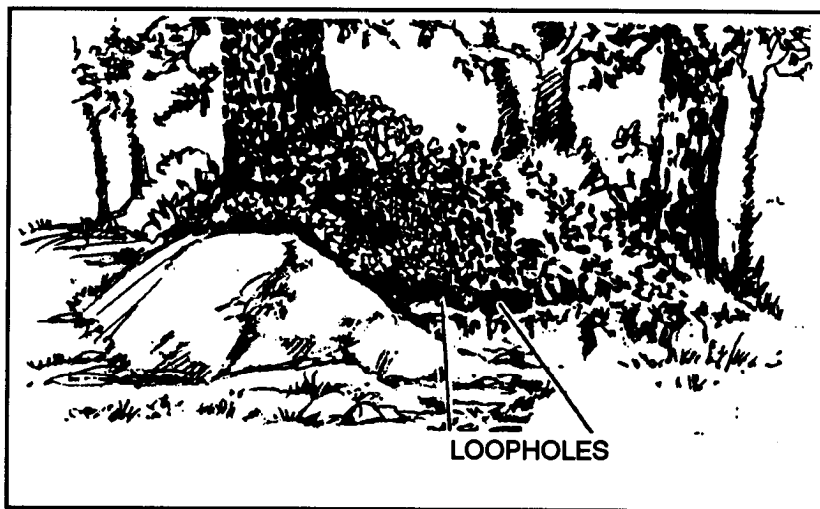

Figure 4-9. Loopholes in hide position.
(4) **Loopholes.** The construction of loopholes (Figure 4-9, page 4-18) requires care and practice to ensure they afford adequate fields of fire. Loopholes must be camouflaged by foliage or other material that blends with or is natural to the surroundings.